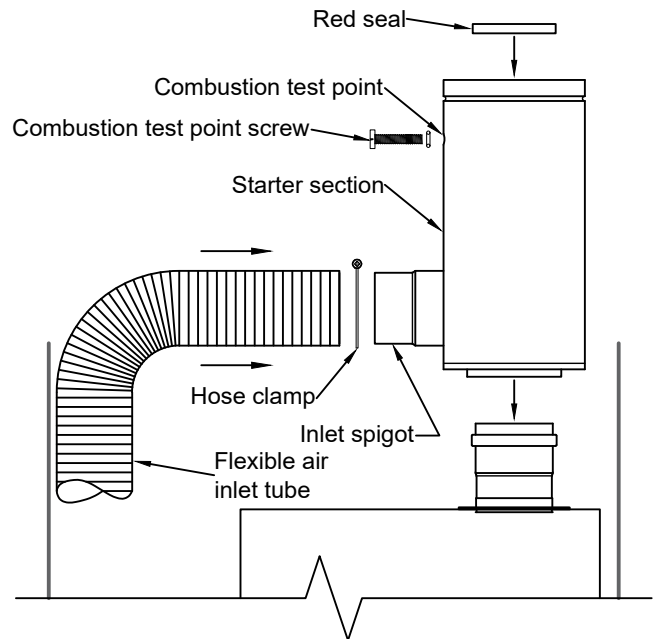

Figure 4-2: Fitting starter section
Refer to Figure 4-2 for guidance.
7. Connect the flexible air inlet tube to the inlet spigot and secure with the wire hose clamp supplied with the boiler. Refer to Figure 4-2 for guidance.